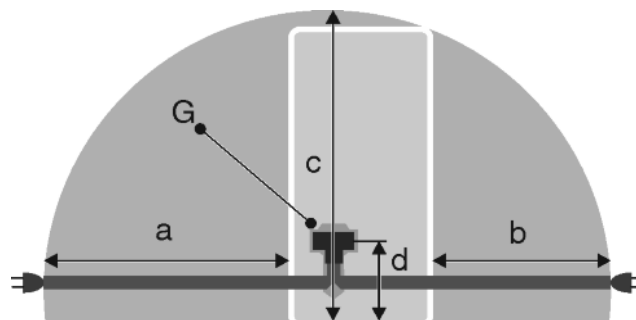

Fig. 28
- The socket is outside the back of the appliance area in the specified area *Fig. 28 (a, b, c)*.
▶ Insert the appliance plug *Fig. 28 (G)* into the back of the appliance. Ensure that it clicks into place.